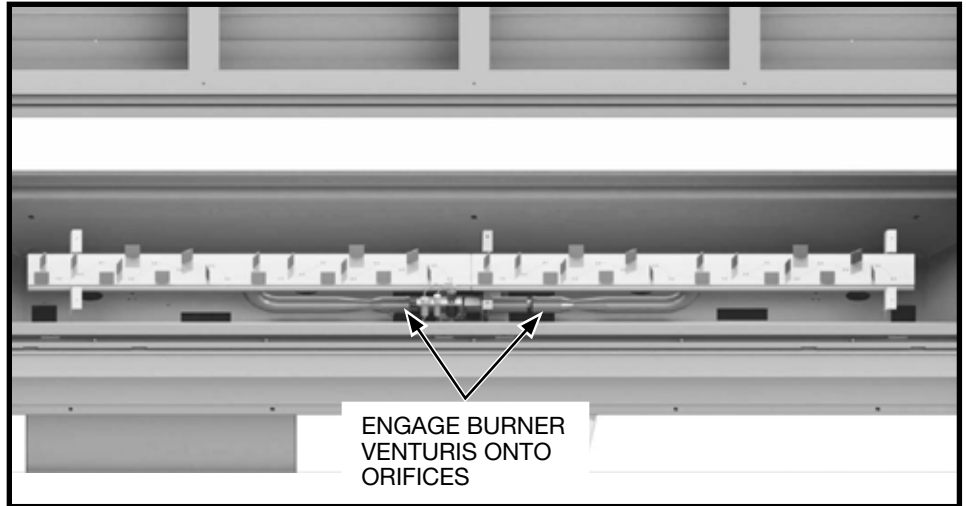

Figure 45: ng04 Burner installation.
4. Install burners as shown in Figure 45. Be sure to engage the venturis onto the orifices in the manifold and rest burners together on the center tray leg.